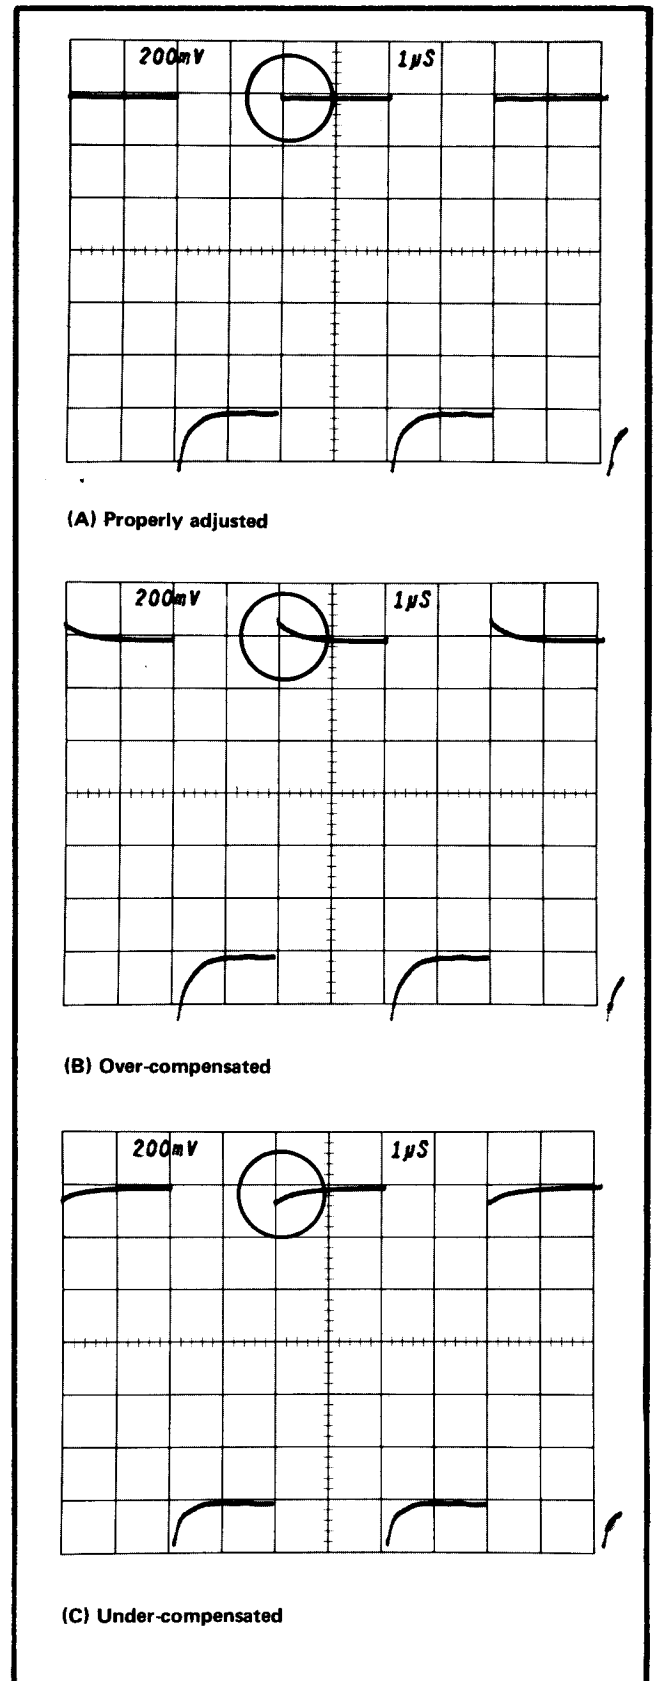

Fig. 5-15. Probe compensation waveforms, step 13.
g. **CHECK—Divide-by-20 input compensation.** The top left corners of the square waves should be square, duplicating the Calibration Fixture's 250 kHz Step Response display. Overshoot, rounding and tilt at the top-left corner of the square waves should be within 0.2 divisions. See Fig. 5-15. Ignore the aberrations at the trailing edge of the top of the pulse.